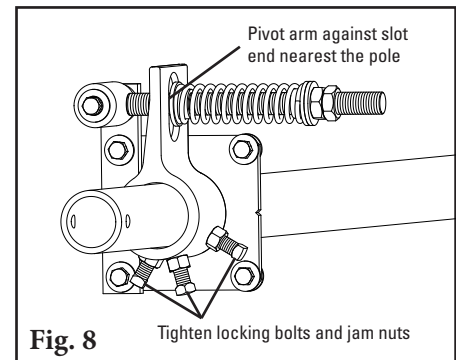

Fig. 8
8. **Tension the blade to the belt.** Rotate the blade until it makes contact with the belt. While holding the spring bushing flat on the torque arm, rotate the torque arm until the pivot arm is against the end of the slot nearest the pole. Tighten the locking bolts and jam nuts on the torque arm (Fig. 8).